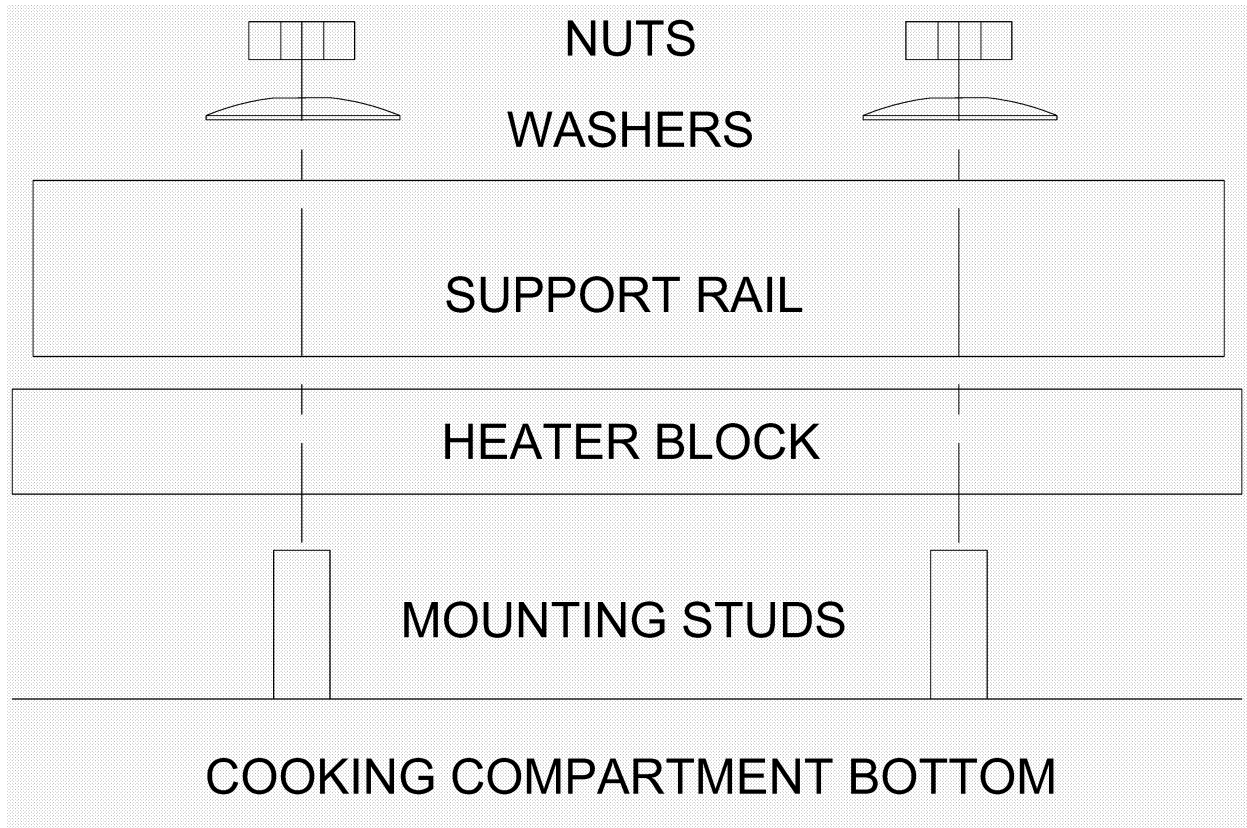

Figure 1
- **IMPORTANT: SAVE THE SUPPORT RAILS!** (See Figures 1 and 2.)
7. Place the support rails on the mounting studs as shown in Figures 1 and 2.
8. Place the washers on the mounting studs as shown in Figure 1.
9. Screw the brass 1/4-20 nuts on the mounting studs as shown in Figure 1 and tighten finger tight.